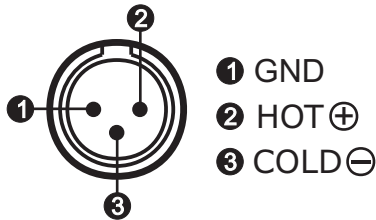

Fig. 5
- (A) Each channel signal output can be connected to the mixer or amplifier's MIC IN jack by using a cable with balanced XLR connector. 3-pin XLR output wiring diagram, as Fig. 5 shows.